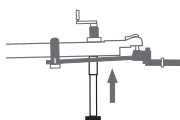

Figure 33
4. Extend your trailer jack to lift the weight off the spring arms. (Figure 33)